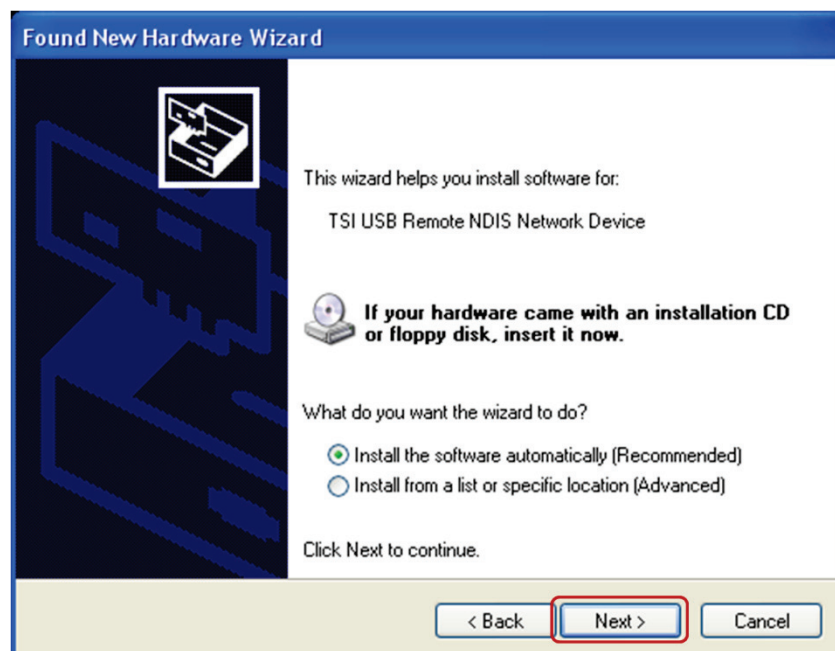

Figure 7
8. Select the **Install the software automatically** action then, select the **Next >** button (Figure 7).